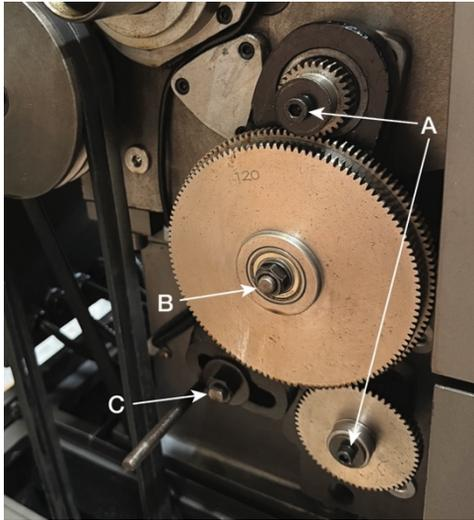

Figure 13-2
3. Remove smaller gears socket head cap screws (A, Figure 13-2) and large gear hex nut (B, Figure 13-2). Loosen quadrant hex nut (C, Figure 13-2). Move the quadrant out of the way.